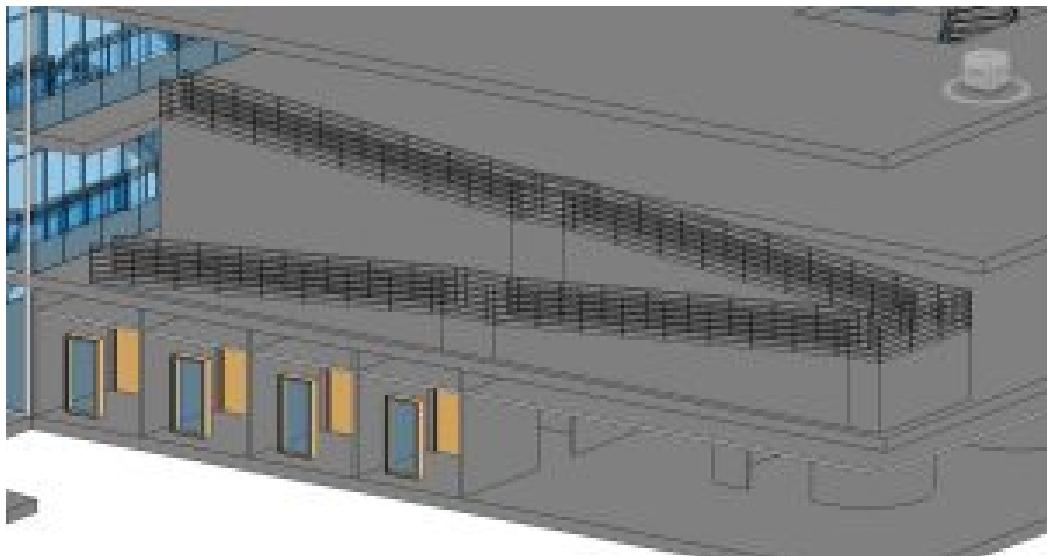

Figure 4.18 Completed ram shown in 3D view with 2 walls hidden
11. Use the Move tool to move the ramp into the corner as shown in Figure 4.18